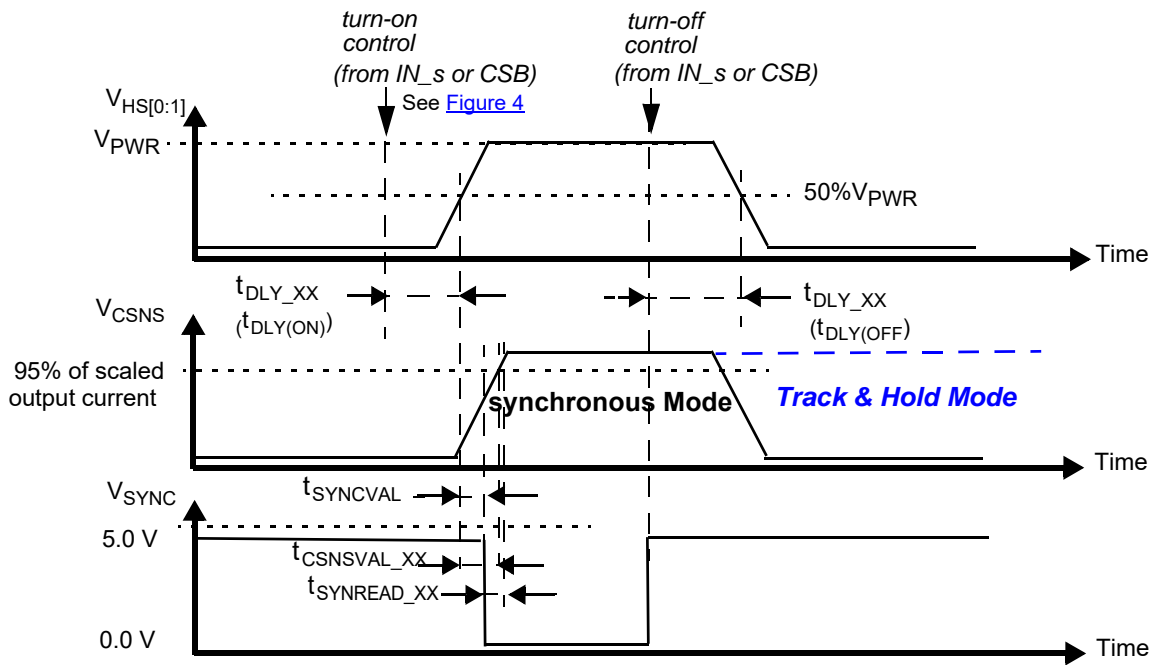

Figure 9. Synchronous and Track-and-Hold current sensing modes: associated delay and settling times
30. Time required to switch off the channel after detection of overtemperature (OT), overcurrent (OC), SC or UV error (time measured between start of the negative edge on the FSB pin and the falling edge on the output voltage until $V(\text{HS}[0:1]) = 50\%$ of V_{PWR}).
31. Settling time ($= t_{CSNSVAL_XX}$), SYNC output signal delay ($= t_{SYNVAL_XX}$) and Read-out delay ($= t_{SYNREAD_XX}$) are defined for a stepped load current using a $10\ \Omega$ resistive load for $\text{CSNS_RATIO}_s = 0$. (see Figure 9 and Output current monitoring \(CSNS\)).
The CS pin allows independent current monitoring of channel 0 or channel 1 up to the steady state overcurrent threshold. It can also be used to sense the device temperature. The different functions are selected by setting bits CSNS1_en and CSNS0_en to the appropriate value (Table 23). When the CSNS pin is sensed during switch-off in the (optional) track & hold mode (see Figure 9), it outputs the scaled value of the load current as it was just before turn-Off. When several devices share the same pull-down resistor, the CSNS pins of devices the current of which is not monitored must be tri-stated. This is accomplished by setting CSNS0_en = 0 and CSNS1_en = 0 in the GCR register (Table 10). Settling time ($t_{CSNSVAL_XX}$) is defined as the time between the instant at the middle of the output voltage's rising edge ($HS[0:1] = 50\%$ of V_{PWR}), and the instant at which the voltage on the CSNS-pin has settled to $\pm 5.0\%$ of its final value. Anytime an overcurrent window is active, the CSNS pin is disabled (see Overcurrent detection on resistive and inductive loads). The current and temperature sensing functions are unavailable in Fail-safe mode and in Normal mode when operating without the V_{DD} supply voltage. In order to generate a voltage output, a pull-down resistor is required ($R(CSNS)=1.0\text{ k}\Omega$ typ. and $470 < R(CSNS) < 10\text{ k}$). When the current sense resistor connected to the CSNS pin is disconnected, the CSNS voltage is clamped to $V_{CL(CSNS)}$. The CSNS pin can source currents up to about 5.6 mA.
To synchronize current sensing with an external process, the SYNC signal can be connected to a digital input of an external MCU. SYNC is asserted logic low when the current sense signal is accurate and ready to be read. The current sense signal on the CSNS pin has the specified accuracy $t_{SYNREAD_XX}$ seconds after the falling edge on the SYNC pin (Figure 9) and remains valid until a rising edge is generated. The rising edge that is generated by the SYNC pin at the turn-OFF instant (internal or external) may also be used to implement synchronization with the external MCU. Parameter t_{SYNVAL_XX} is defined as the time between the instant at the middle of the output-voltage rising edge ($HS[0:1] = 50\%$ of V_{PWR}), and the instant at which the voltage on the SYNC-pin drops below 0.4 V (V_{SOL}). The SYNC pins of different devices can be connected together to save μ -controller input channels. However, in this configuration, the CSNS function of only one device should be active at a time. Otherwise, the MCU does not determine the origin of the SYNC signal. The SYNC pin is open drain and requires an external pull-up resistor to V_{DD} .